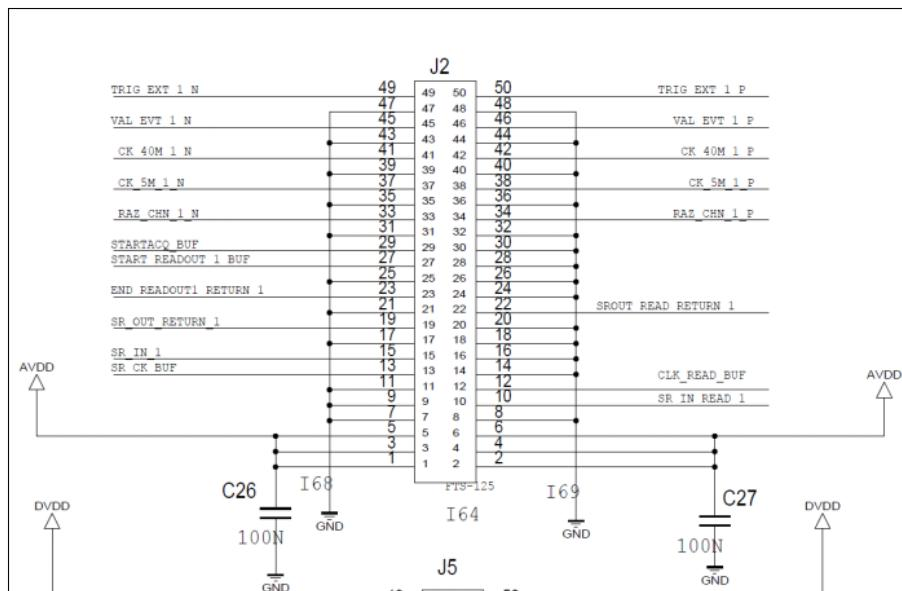

Figure 1.12: J2 connector pin-out
2. Then take a 50 pins flat cable (that you are then going to connect to the J2 connector). Cut in the middle the wires number 13, 49 and 50 (SR\_CK\_BUF, TRIG\_EXT\_N and TRIG\_EXT\_P respectively). Refer to Figure 1.12 for the flat cable pin-out. Strip the “ASU end” of these wires. By ASU end I mean the end that is not to be connected to the interface but to the ASU. If needed do the same for the other flat cables coming out the connectors J6, J8 and J10.